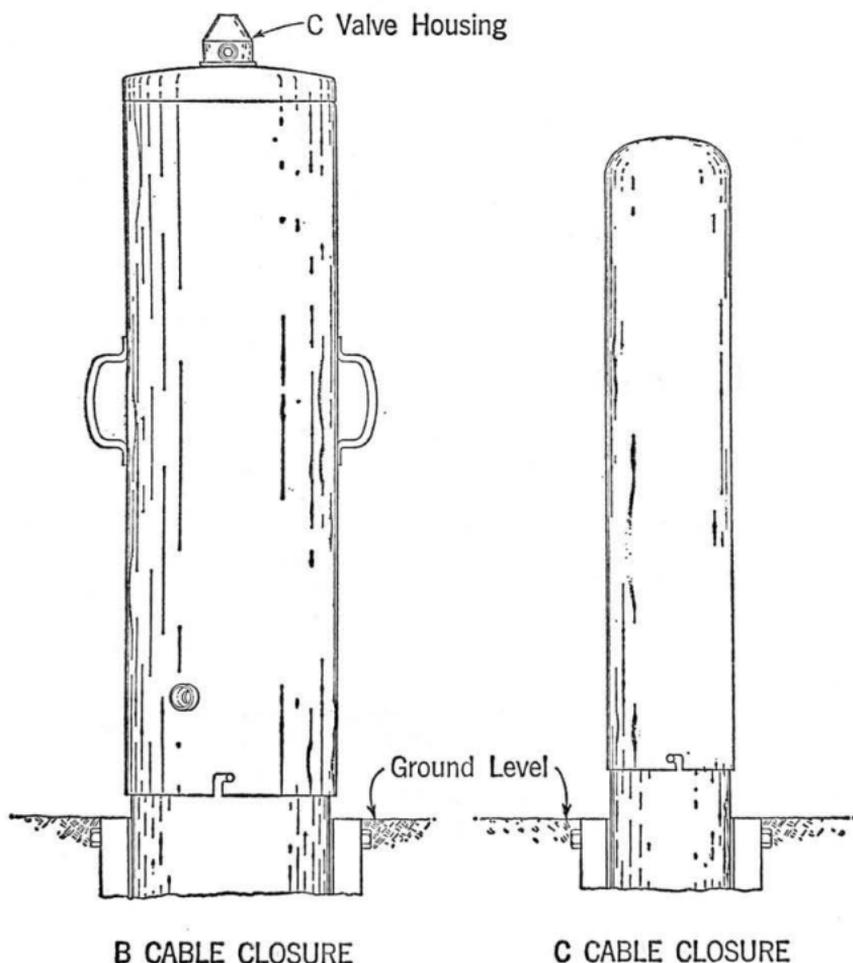

Fig. 10
7.03 Fig. 10 illustrates installed B and C Cable Closures.